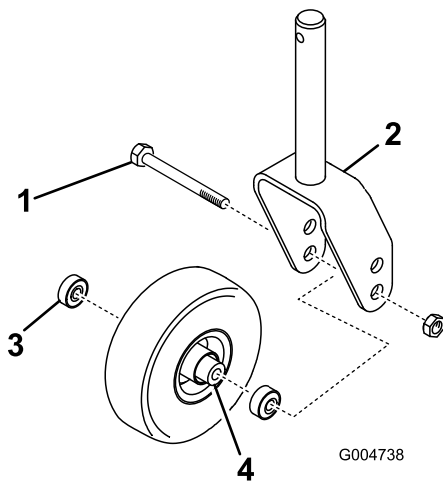
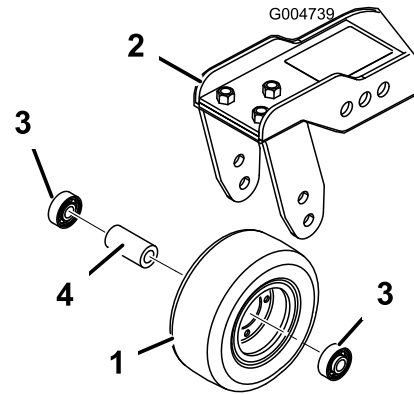

Figure 80
Figure 81
1. Remove the locknut from the bolt holding the castor wheel assembly between the castor fork (Figure 80) or the castor pivot arm (Figure 81). Grasp the castor wheel and slide the bolt out of the fork or pivot arm.
2. Remove the bearing from the wheel hub and allow the bearing spacer to fall out (Figure 80 and Figure 81). Remove the bearing from the opposite side of the wheel hub.